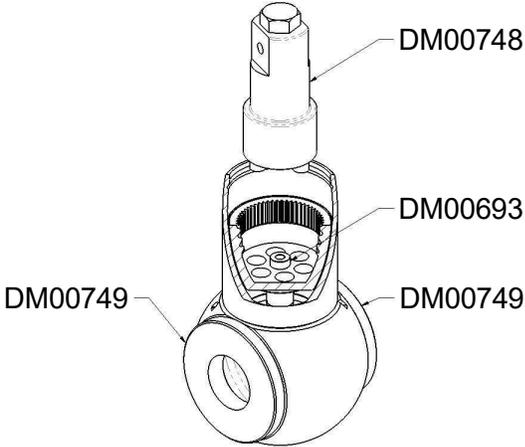

Figure 10: Assembly and disassembly tool
2. Using spider tool (DM00748), loosen spider (DM02145 Figures 10 and 11) from main body.